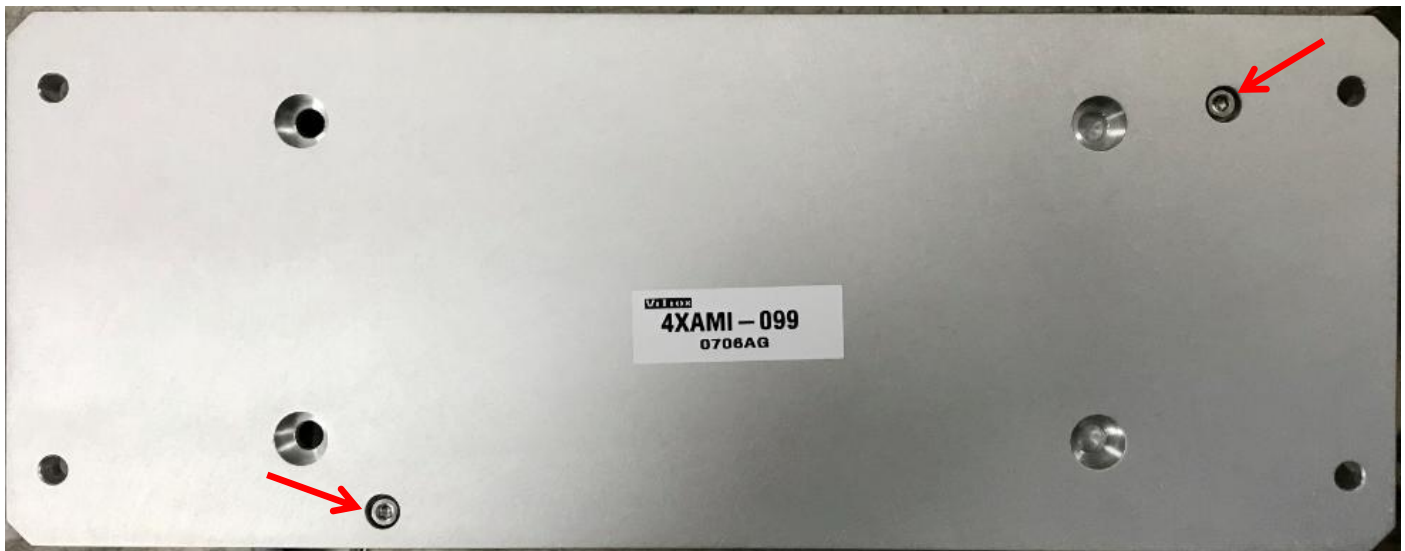

Figure 12 Trigger Board Power Supply removal
14. Flip the Trigger Power Supply Adapter. Loosen 2 x Screws to remove Trigger Power Supply Adapter as Figure 12